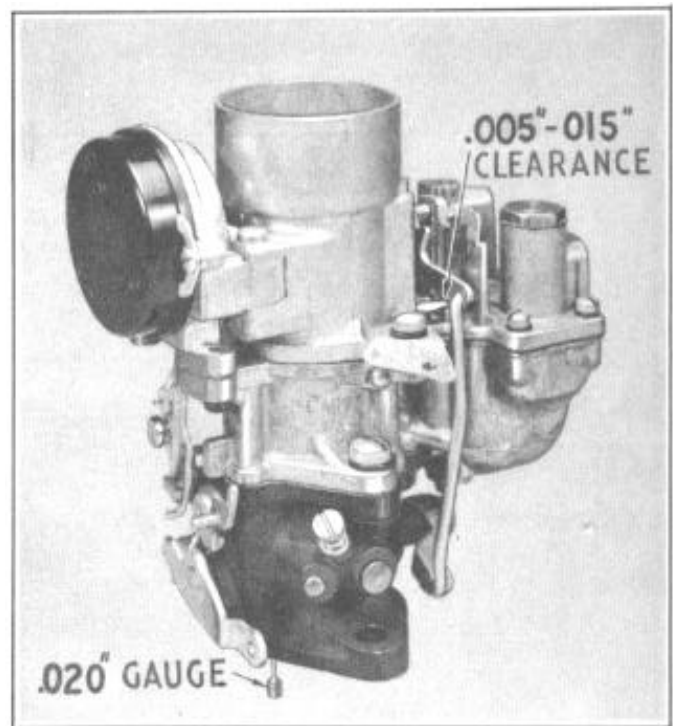

FIGURE 33
1. Crack throttle valve .020" by placing Carter gauge No. T-109-29 between throttle valve and bore of carburetor on side opposite the idle port, Figure 33.